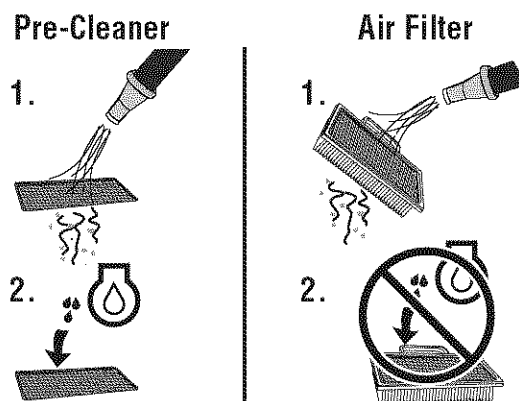

Figure 31. Air Filter Service
1. Figure 31. Wash the pre-cleaner in liquid detergent and water.
1. Figure 31. If stamped "Washable," the filter can be washed with warm water and mild soap.